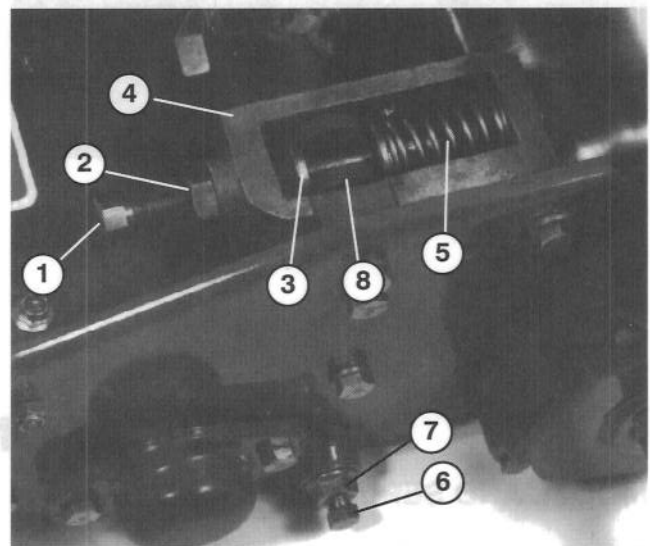

Figure 42
1. Loosen jam nut securing each bedbar adjusting screw to each frame adjuster (Fig. 42).
2. Loosen each bedbar adjusting screw until thrust washer bottoms out on frame adjuster (Fig. 42).
3. Using a spring compressor or clamp, compress springs on bedbar adjusting screws to free bedbar from frame adjusters (Fig. 42).
4. On each side of machine, loosen the jam nut securing bedbar bolt (Fig. 42)